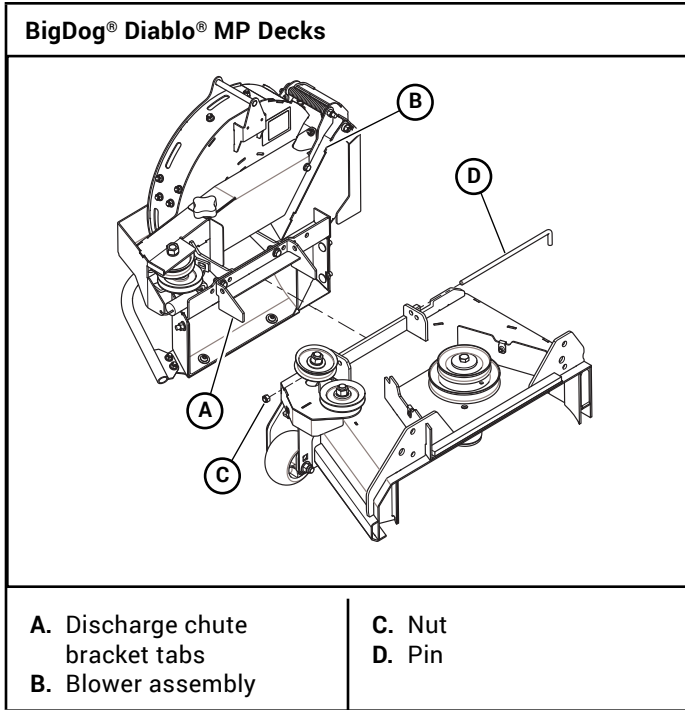
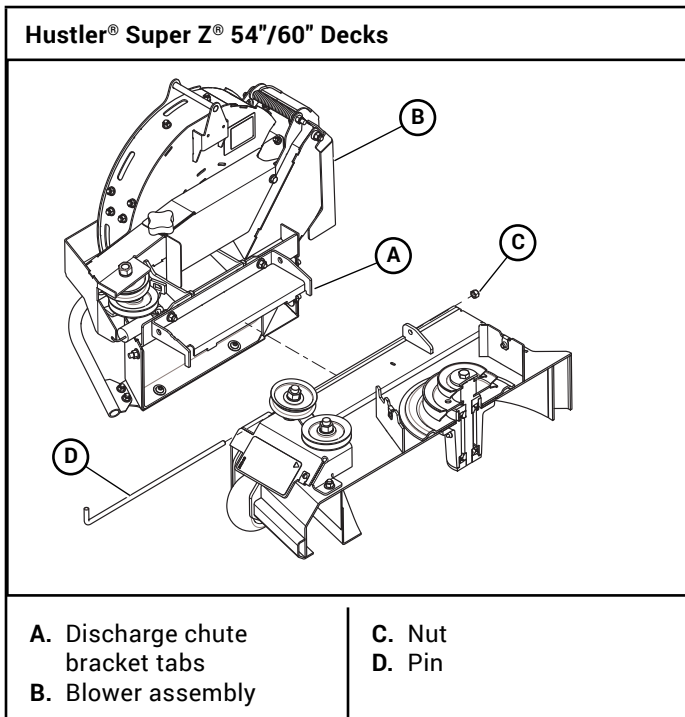

Figure 4-12
Figure 4-13
6. Remove the pin and nut that connects the blower assembly to the discharge chute bracket tabs and remove the blower assembly. Figure 4-12 & Figure 4-13